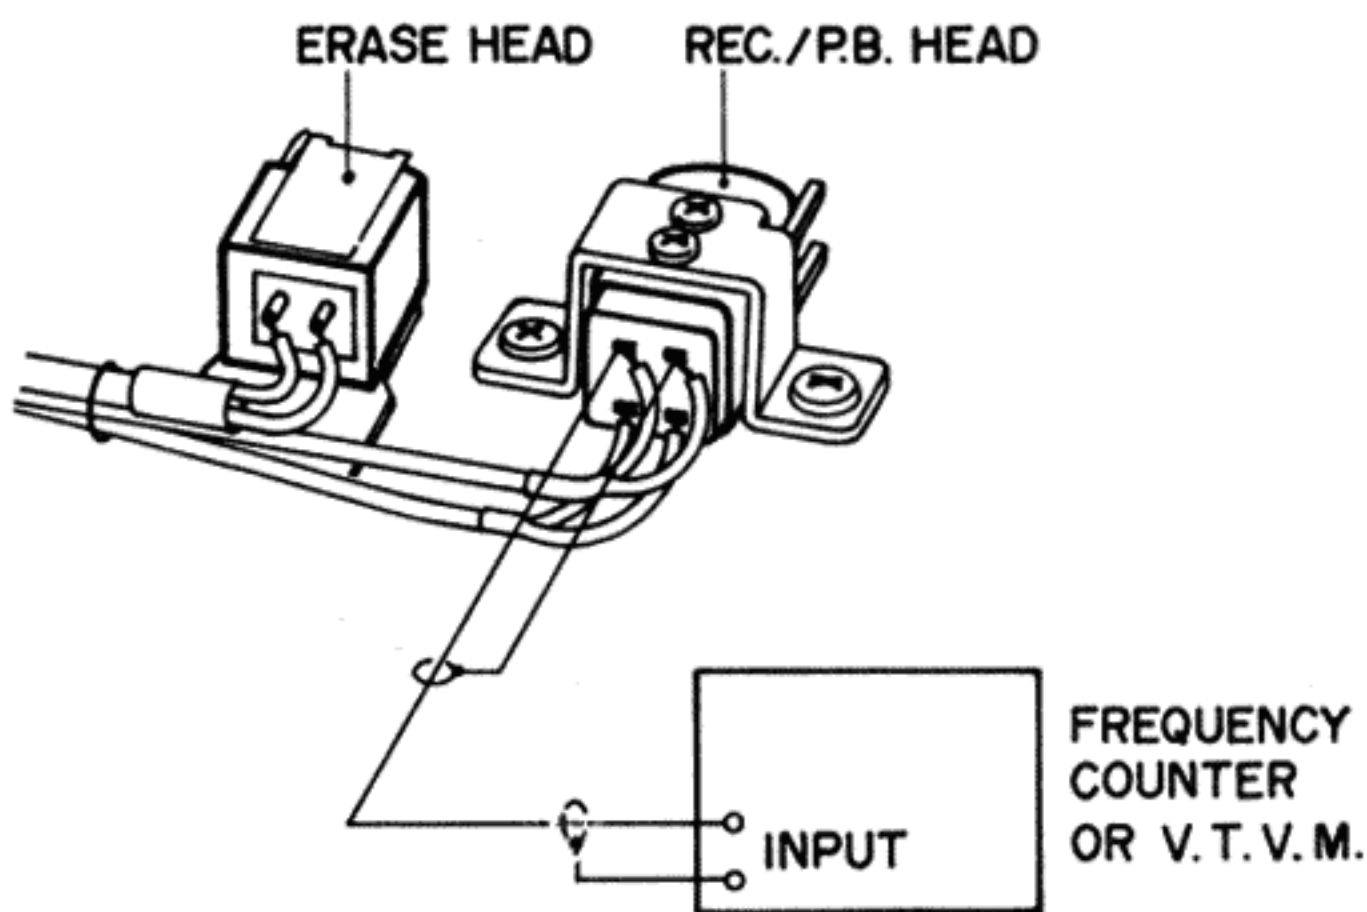

Fig. 16
5. RECORDING BIAS FREQUENCY MEASUREMENT (See Fig. 16)
Set recorder to Rec. mode. Connect a frequency counter between the coil terminals of the Rec./P.B. Head as shown in Fig. 16 and read indication. Correct RECORDING BIAS FREQUENCY is 63 ± 5 kHz.
Set recorder to Rec. mode. As shown in Fig. 16, connect a V.T.V.M. between the coil terminals of each head and read indication.